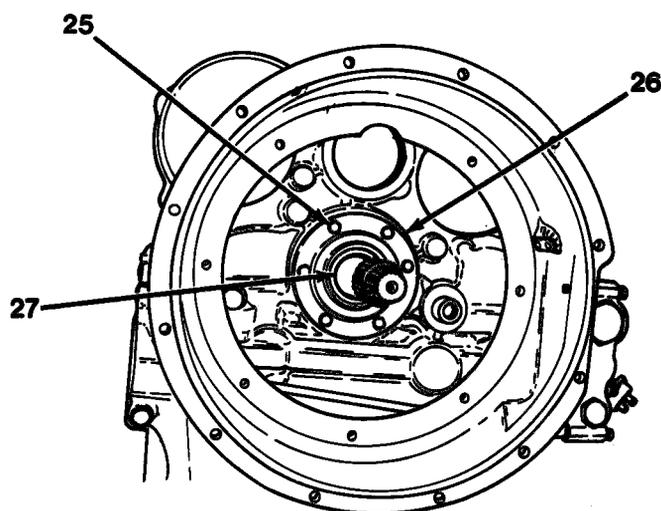

Figure 11-9
20. Remove six capscrews (25), cover plate (26) and stator support tube (27, Figure 11-9).